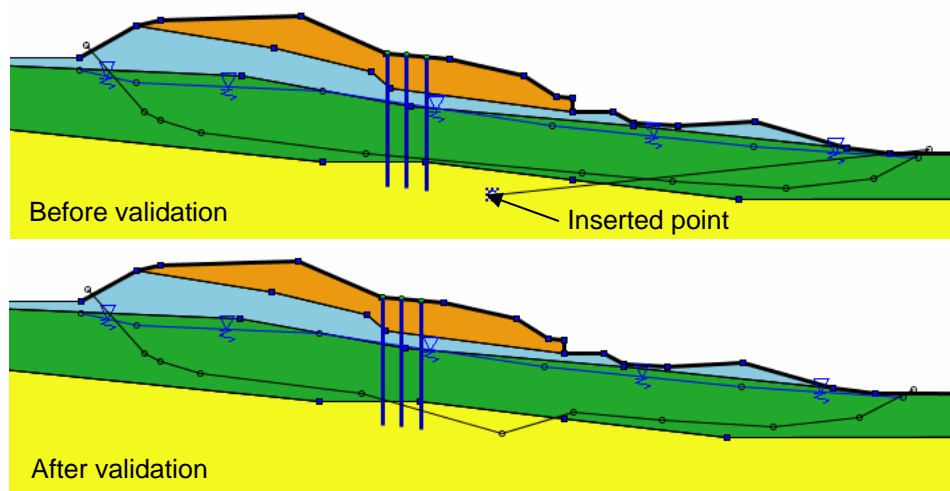

Figure 103: addition of a point to an existing polygonal failure surface
- The points of a polygonal failure surface are automatically ordered by increasing X values when validating the dialogue box: if you define a zigzag failure surface (by typing or drawing), it will automatically be “straightened” when validating the dialogue box. In the same way, if you add a point to an existing failure surface, this point will first be connected to the last point previously defined, but will be ordered after validation of the dialogue box (Figure 103).